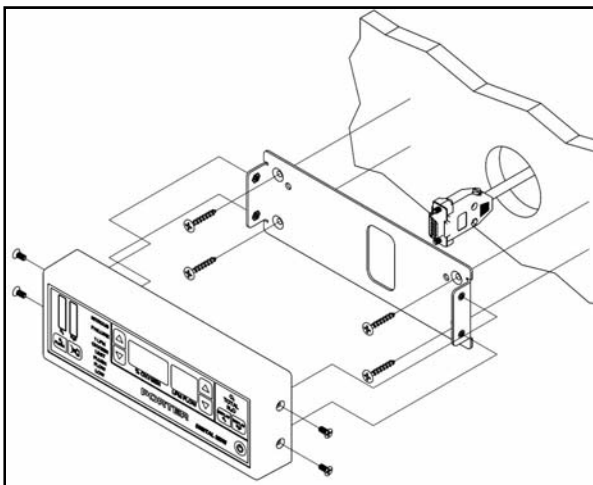

Figure 3. Control Unit mount directly to wall.
2. For mounting on to wall (see Figure 3), first remove side screws to separate back bracket from Control Unit. Mount back bracket to wall. Slide Control Unit on to back bracket and install and tighten side screws again. (Bracket B-5485)